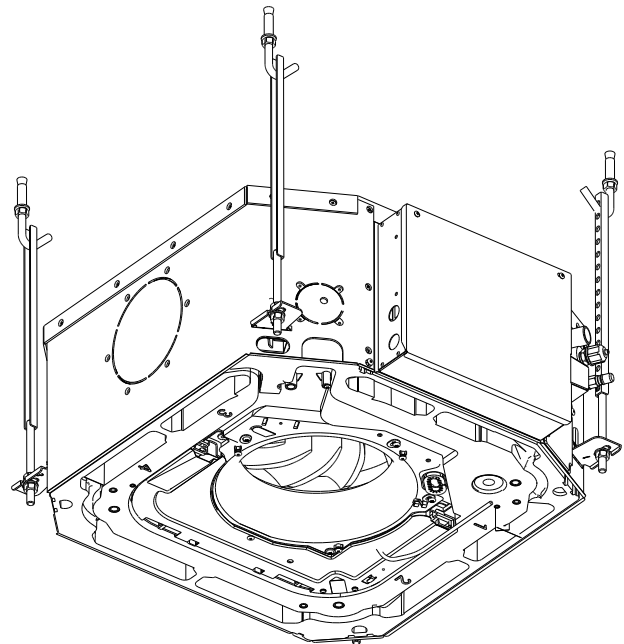

Fig. 13 —Mounting Panel
2. Secure the panel (without the grille) onto the unit using M5 x 20 screws and washers. Before tightening the screws, be sure the panel is flush with the false ceiling. See Fig. 13.